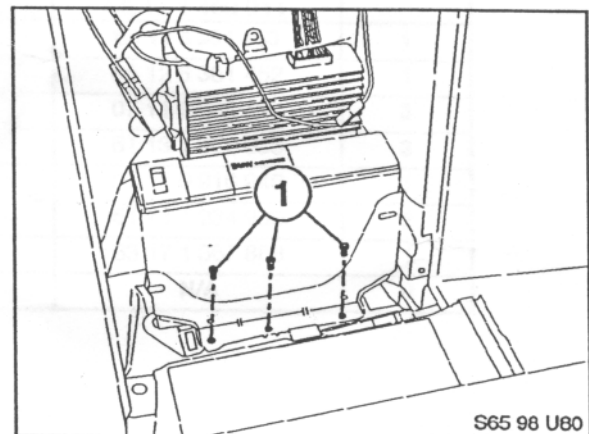

Figure 8
9. First, install a M5 bolt to front threaded body nut loosely. Then, install 4 other bolts to remaining 4 body nuts (see Figure 8).